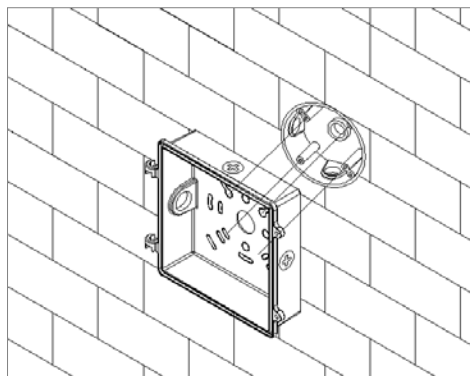

FIGURE 2
- To ensure a water tight seal, apply silicone between the back plate and mounting surface. Then, secure the back plate to the junction box using appropriate fasteners (not provided, see FIGURE 2).